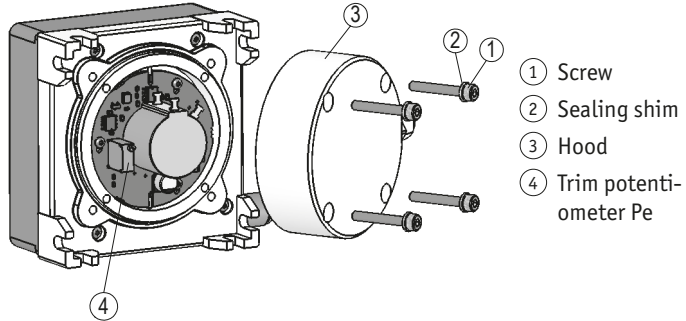

Fig. 15: Setting the trimming potentiometer MWU
Adjusting the trim potentiometer (Fig. 15)
By means of the trim potentiometer Pe (4) (see Fig. 15), this value can be adjusted to the actual final position of the application.
1. Undo screws (1) with sealing shims (2) and open the hood (3).
2. Adjust the trim potentiometer Pe (4), see alignment-
3. Close the hood (3) and fasten with sealing shims (2) and screws (1).